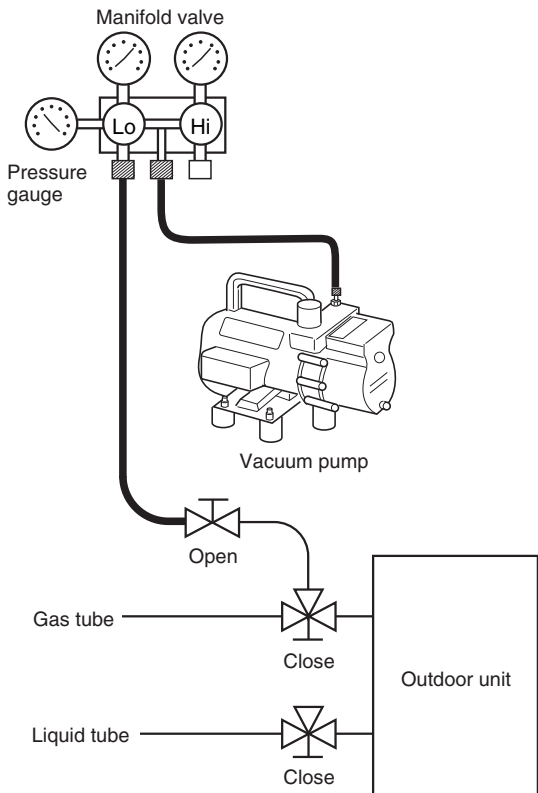

Fig. 8-4
- (1) Attach the charge hose end described in the preceding steps to the vacuum pump to evacuate the tubing and indoor unit. Confirm that the “Lo” knob of the manifold valve is open. Then, run the vacuum pump.
- (2) When the desired vacuum is reached, close the “Lo” knob of the manifold valve and turn off the vacuum pump. Confirm that the gauge pressure is under  $-101\text{ kPa}$  ( $-755\text{ mmHg}$ ,  $5\text{ Torr}$ ) after 4 to 5 minutes of vacuum pump operation. (Fig. 8-4)